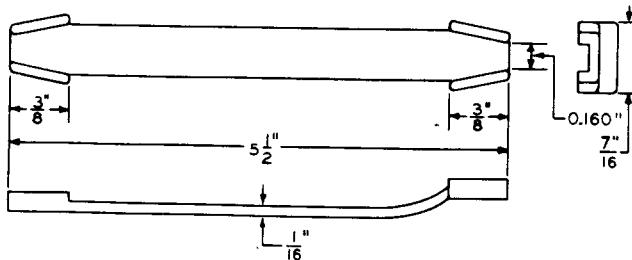

Fig. 9—662A Adjuster Tool
2.10 662A: The 662A tool (Fig. 9) is an adjuster used for adjusting lugs of wire spring multicontact relays.